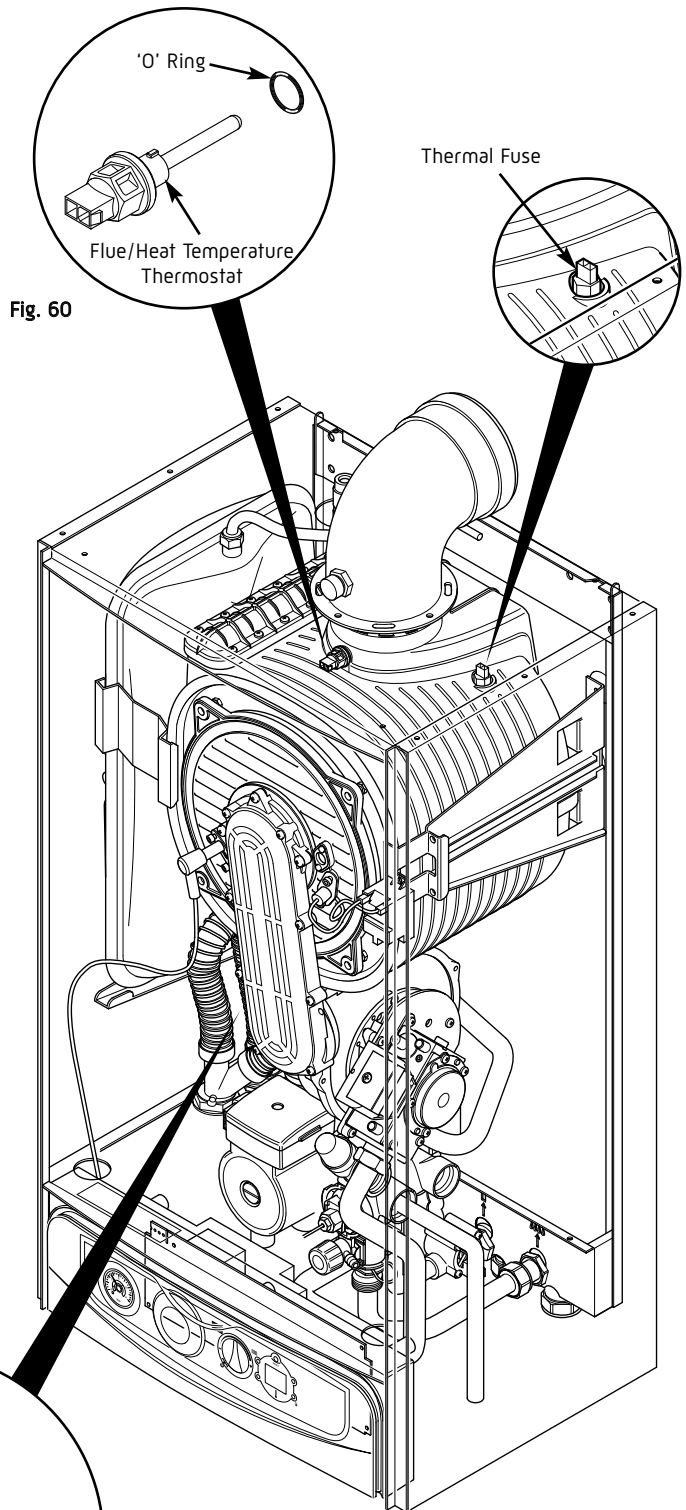

Fig. 60
2. Turn the sensor 90° anticlockwise to remove - it is a bayonet connection (Fig. 60).